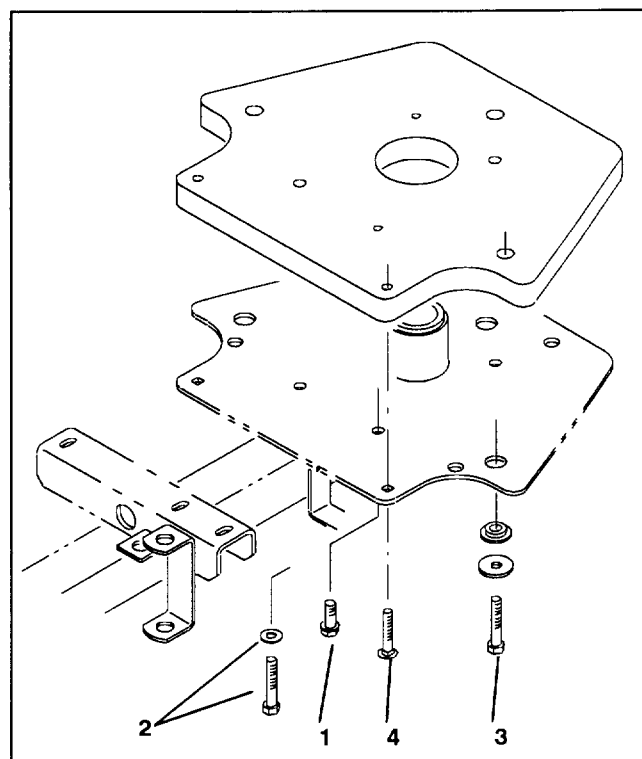

Figure 21
TO INSTALL REAR WEIGHT KIT, Part No. 83-9370 (Fig. 21)
2. Remove (2) carriage screws and flange locknuts securing battery hold down to rear frame and remove hold down and battery. Discard fasteners.
3. Remove (3) capscrews, flatwashers and grommets securing fuel tank to rear frame. Set fuel tank aside. Retain flatwashers and grommets for reinstallation.
5. Using threaded holes in weight, secure it to frame with (2) 3/8 - 16 x 1.00" lg. flange head screws as shown in figure 21.
8. Using threaded holes in second weight, secure it to first weight and frame with (2) 3/8 - 16 x 2.00" lg. capscrews and flat washers as shown in figure 21.
9. Position fuel tank on weight(s) aligning mounting holes. Secure tank in position with (3) 3/8 - 16 x 2.00" lg. capscrews (one weight) or (3) 3/8 - 16 x 3.00" lg. capscrews (two weights) and flatwashers and grommets previously removed.
10. Reinstall battery and battery hold down. Secure hold down to rear frame with (2) 5/16 x 1.75" lg. carriage screws (one weight) or (2) 5/16 x 2.75" lg. carriage screws (two weights).